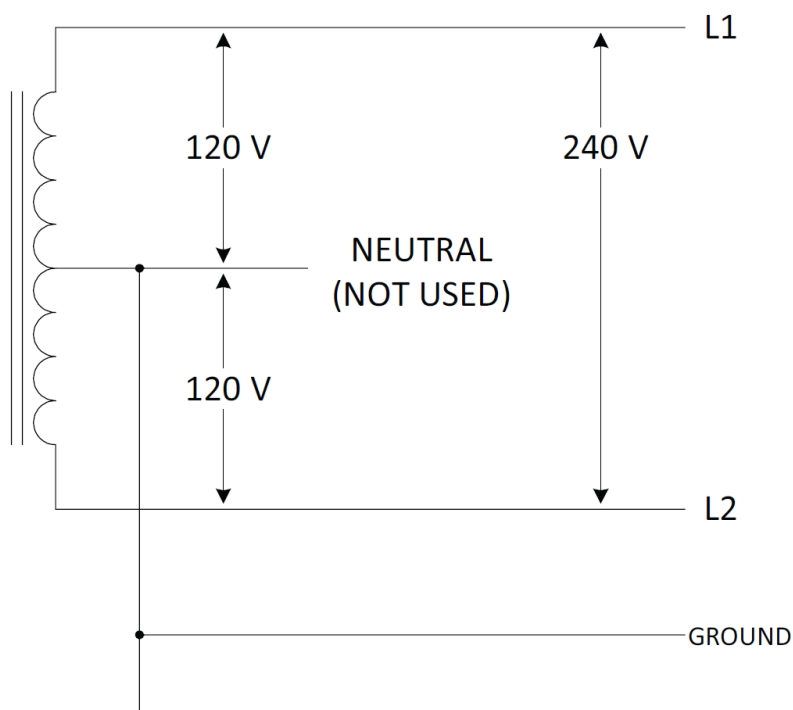
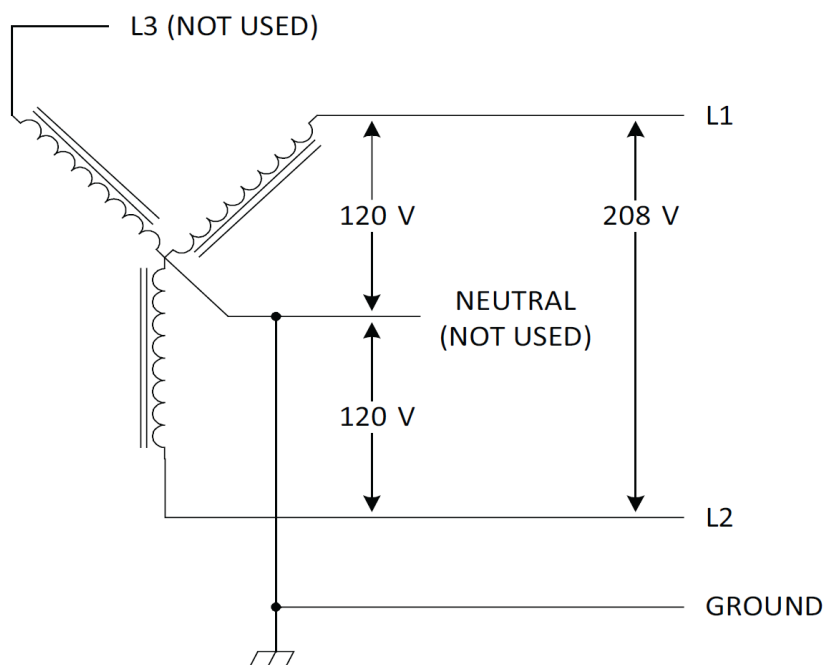

Figure 1: 220/240 V single-phase
Figure 2: 208 V three-phase, wye-connected
- ⚠ **WARNING:** This is a single-phase device. Do not connect all three phases of a three-phase feed! You may use any two phases of a three-phase wye-transformer feed. The center point of the three phases (usually used as Neutral) must be grounded somewhere in the system. A Neutral connection is not required by the EVSE. Only Line 1, Line 2, and Ground are required, as shown in Figure 1: 220/240 V single-phase on page 11.
- ⚠ **WARNING:** If a 240 V three-phase feed is from a Delta-connected secondary, the leg used must have a center-tap. That tap must be Grounded. Only the two phases on either side of the center-tapped leg can be used. See Figure 2: 208 V three-phase, wye-connected on page 11.
Only three wires are connected, but ensure that the service transformer secondary connection is known, and the three wires from the main circuit breaker panel are connected and labeled correctly. Figure 1: 220/240 V single-phase on page 11, Figure 2: 208 V three-phase, wye-connected on page 11, and Figure 3: 240 V three-phase, delta-connected, with center-tap on one leg on page 12 show the most common service transformer secondary wiring formats.